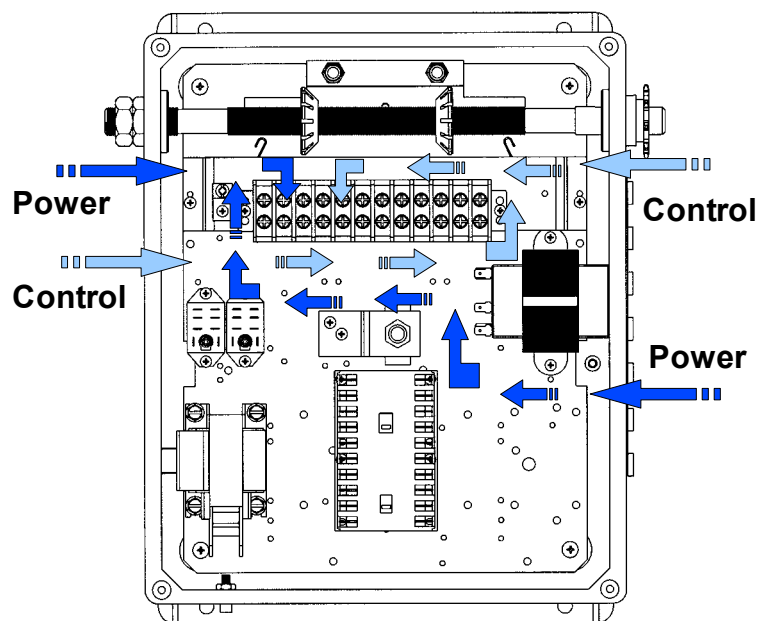

Figure 3 - Low Voltage (Controls) and High Voltage (Power) Connections
1. Route the power line wires either from the right or from the left of the control box, as shown in Figure 3.
2. Route all low voltage control wires, as shown in Figure 3. **KEEP LOW VOLTAGE WIRES SEPARATE FROM LINE VOLTAGE WIRES.**